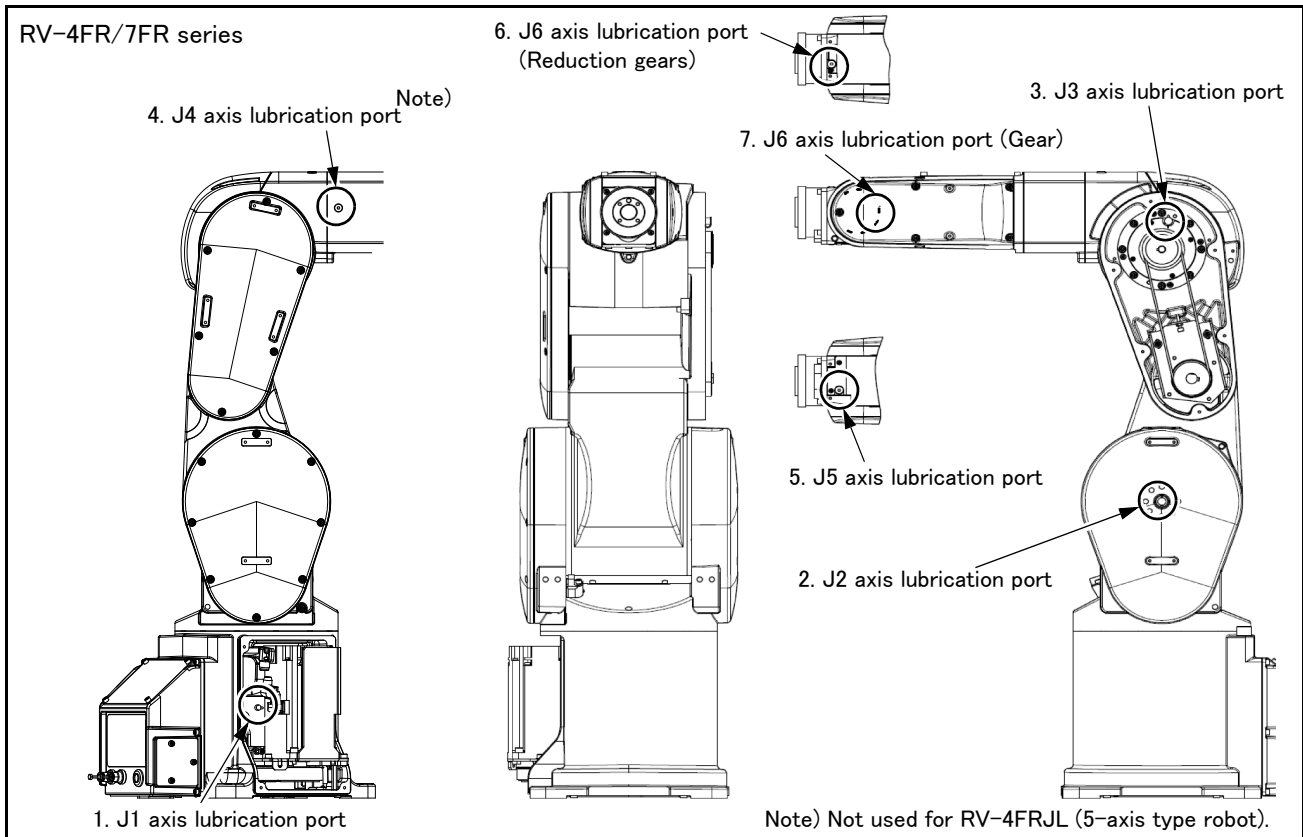
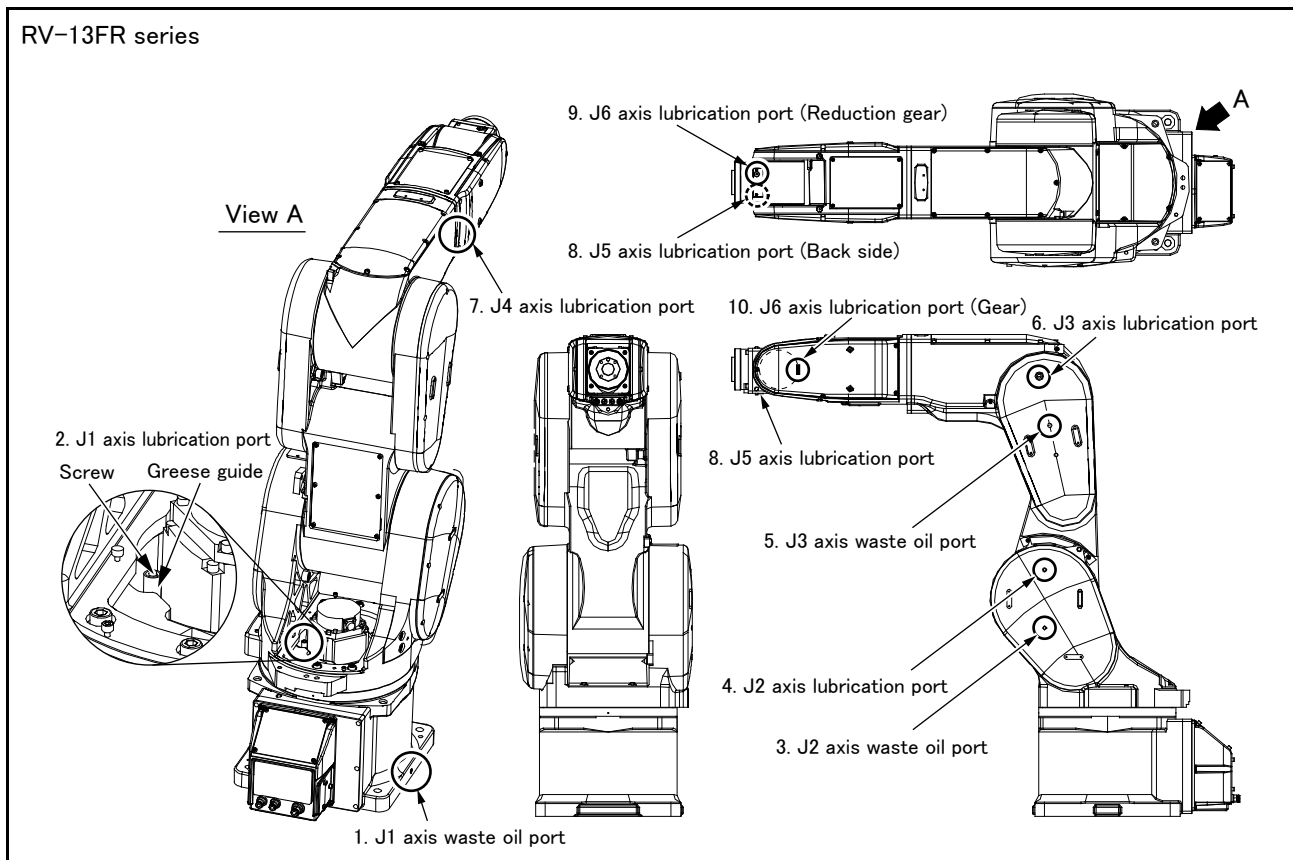

Fig.5-28 : Lubrication positions (RV-4FR/7FR series)
Fig.5-29 : Lubrication positions (RV-13FR series)
The grease nipple position is shown in Fig. 5-28 (RV-4FR/7FR series) or Fig. 5-29 (RV-13FR series). The lubrication specifications for each place are shown in Table 5-11. Refer to the Page 102, "5.3.2 Installing/removing the cover" for the method of removing and installing the cover.
- The numbers in Table 5-11 correspond to the supply positions in Fig. 5-28 (RV-4FR/7FR series) or Fig. 5-29 (RV-13FR series).
- 1) Set the robot to the posture shown in Fig. 5-28 (RV-4FR/7FR series) or Fig. 5-29 (RV-13FR series).